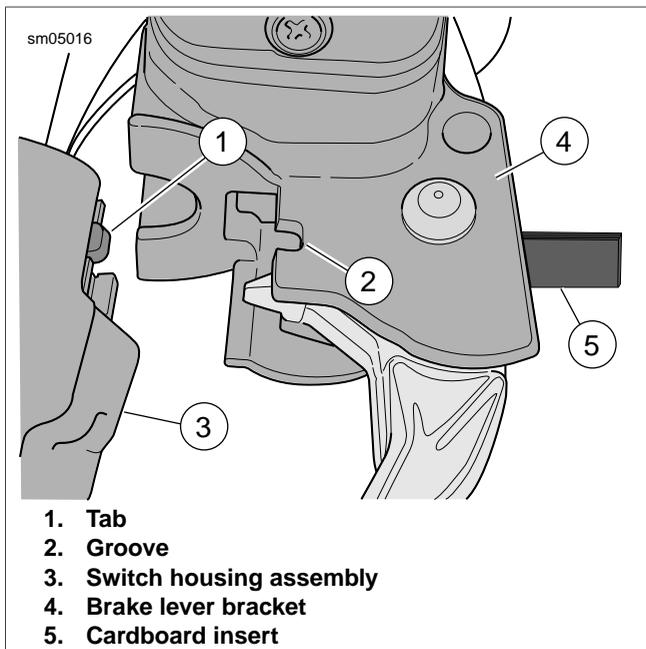

Figure 8-147. Remove Master Cylinder/Brake Lever Assembly
6. Position brake lever/master cylinder assembly inboard of switch housing assembly engaging tab on lower switch housing in groove at top of brake lever bracket. See Figure 8-147.